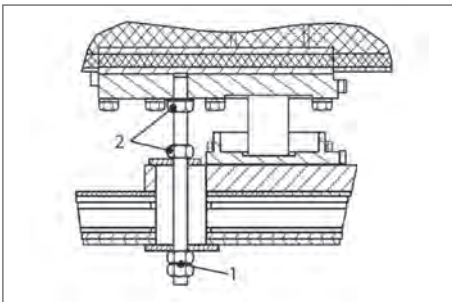

Figure 78
1. Loosen the nuts (Fig. 78 | 1) of the threaded rod located below the tank frame.
2. Loosen the top nut (Fig. 78 | 2) between Palletank® and tank frame.